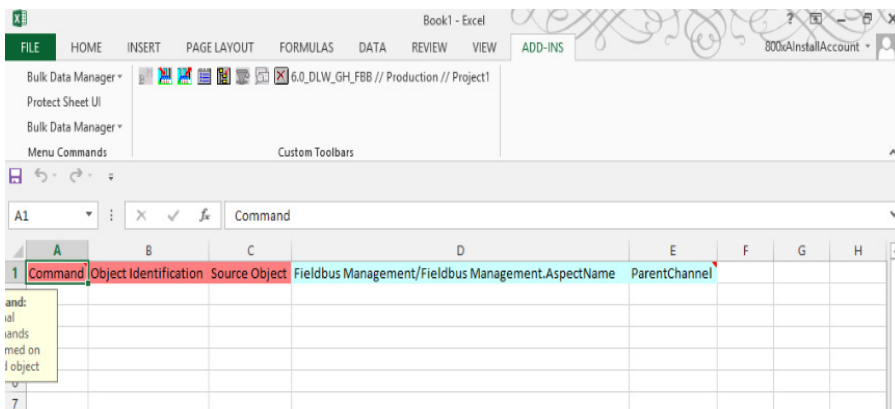

Figure 109. Import of Fieldbus Management aspect into the Bulk Data Manager
9. The Excel spreadsheet looks like Figure 109.